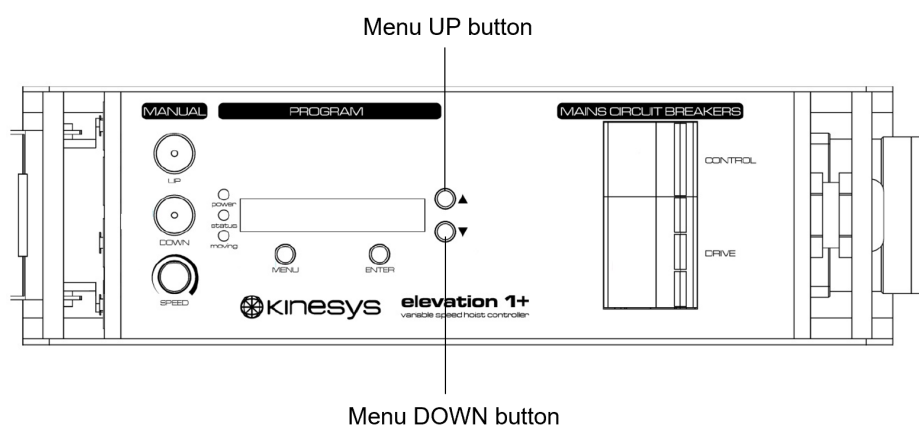

Figure 22. Elevation Controller Menu buttons
2. Hold both the Menu Up and Menu Down buttons (see Figure 22) and make a manual move in any direction.